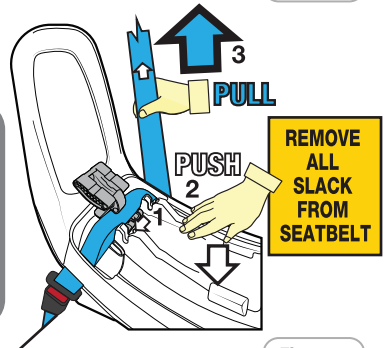

Figure 7
Step 9: Push down on the Base (with knee or hand) whilst pulling the sash section of the vehicle belt firmly in direction of the blue arrow in Figure 7.
Step 10: Ensure the excess slack in the sash belt is removed by feeding back towards the seat belt retractor (refer Figure 7).